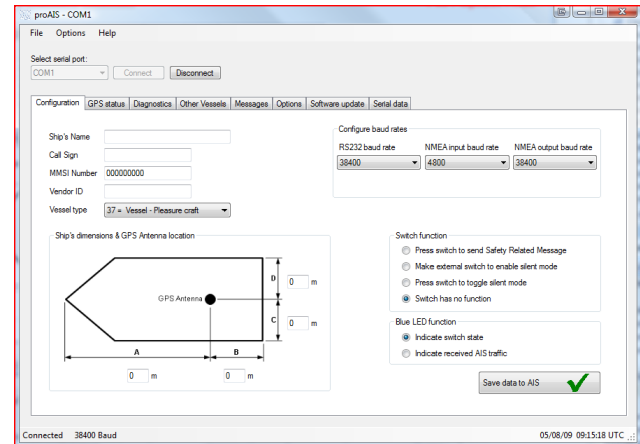

Figure 14 Entering static data into proAIS
4. Once proAIS has launched you should see a window as shown in Figure 14.
3. proAIS should launch with the 'static data' page active (see Figure 14). If this is not the case please select the 'static data' page.